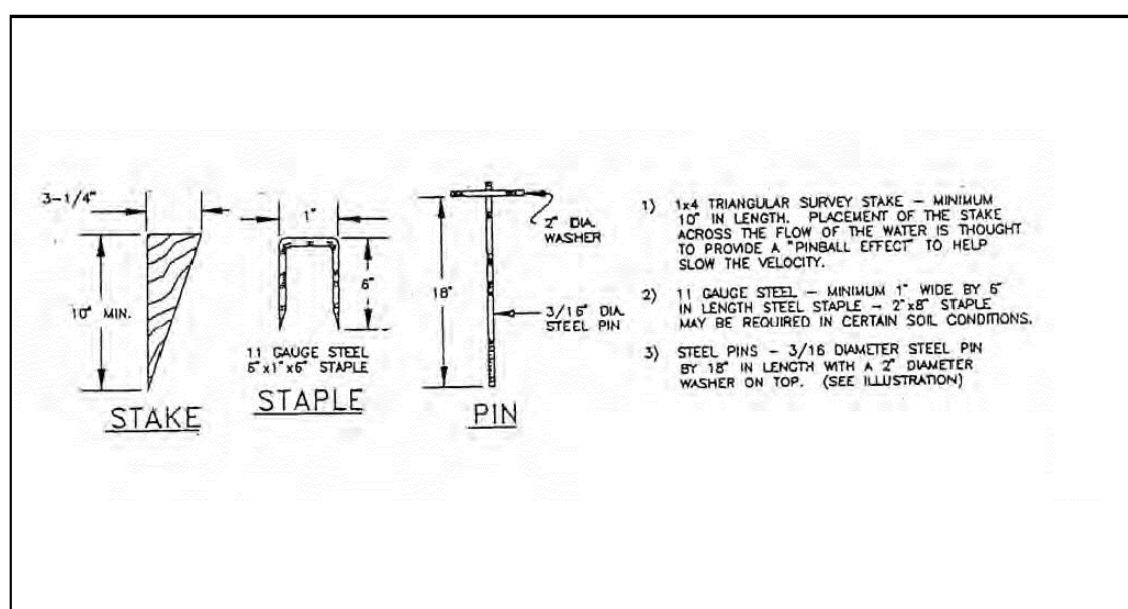

Figure 7.7g. Stakes, Staples, and Pins for the Installation of Soil Stabilization Matting
4. To join strips, insert a new roll of net in the trench, as with the upslope ends of the net. Overlap the end of the previous roll 18 inches (45 cm), turn under 6 inches (15 cm), and staple across the end of the roll just below the anchor slot and at the end of the turned-under net every 12 inches (30 cm) (see Figures 7.7g and 7.7h).